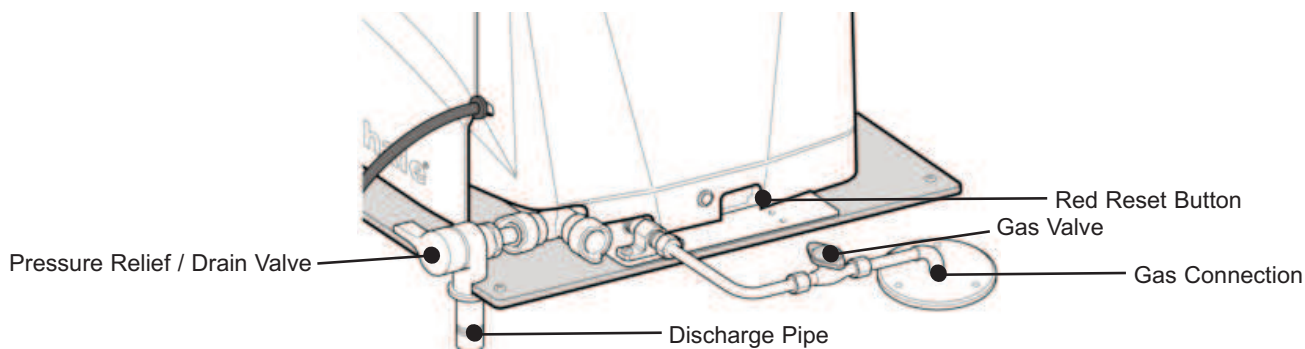

Fig. 16 Connect Gas Supply
Step 8 Connect to Gas Supply (see Fig. 16)
Ventilation **must** comply with relevant local requirements e.g. EN 721. **Please note:** Valve and connection (shown in Fig. 16) are not included with this Water Heater.